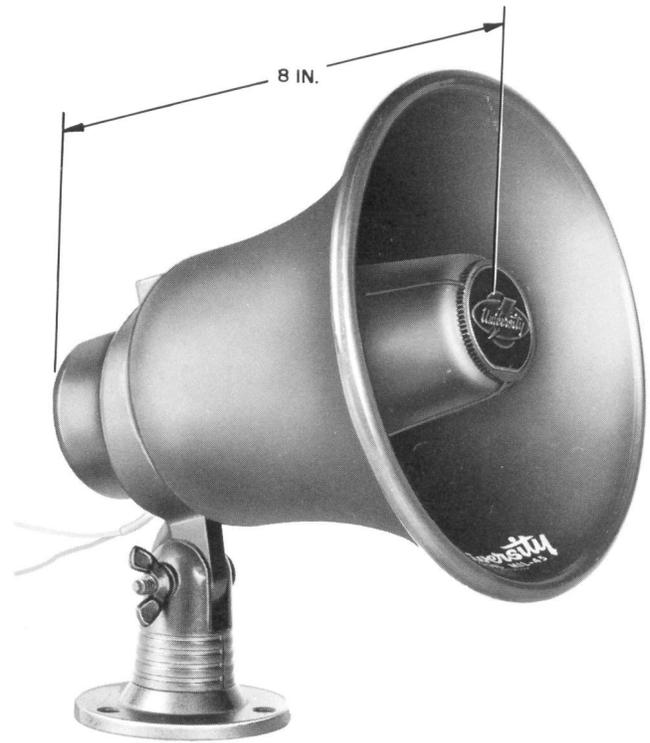

Fig. 5 - KS-16846,L1 Loudspeaker
- KS-16846,L1 loudspeaker (Fig. 5).
2.06 The KS-16846,L1 loudspeaker (Fig. 5) is an outdoor, horn-type speaker. This speaker is equipped with a universal swivel mounting and may be mounted on a wall, eave, or pole. The mounting may also be attached to a 1/2-inch pipe without additional fittings.